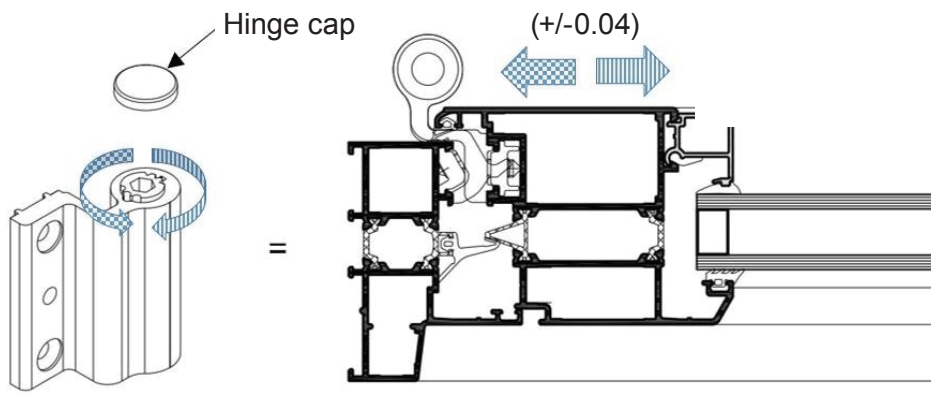

FIGURE 7
11. After the sash is installed into the door frame make final adjustments to the hinges as shown in figure 7. Turning the hinge clockwise will move the sash towards the keepers, turning the hinge counter clockwise will move the sash away from the keepers. After hinges have been adjusted install hinge caps to lock the adjustments made.